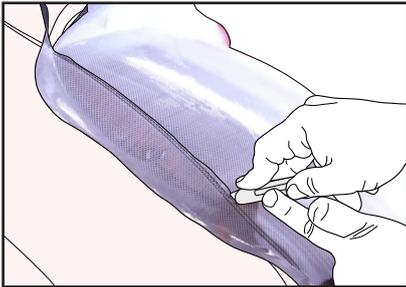

Figure 21
- › Cut the film completely. (FIG. 21)